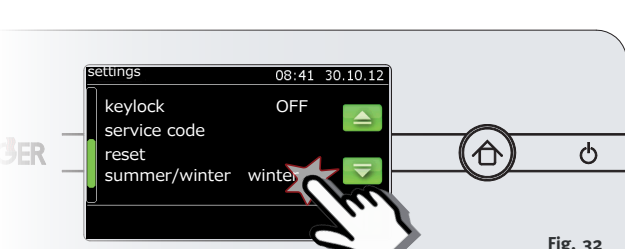

Fig. 32
1. Select Settings --> Summer / Winter in the main menu (Fig. 32).